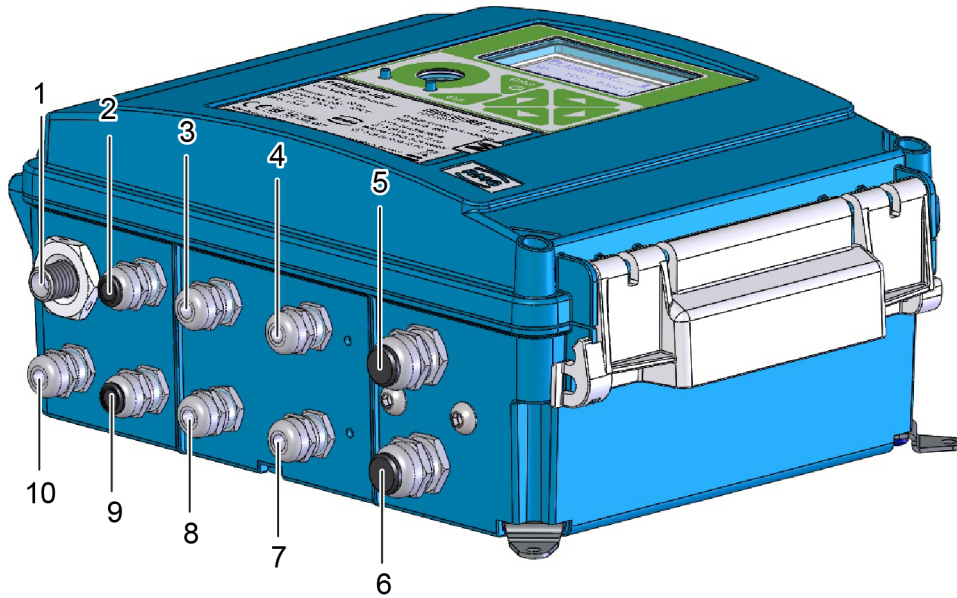
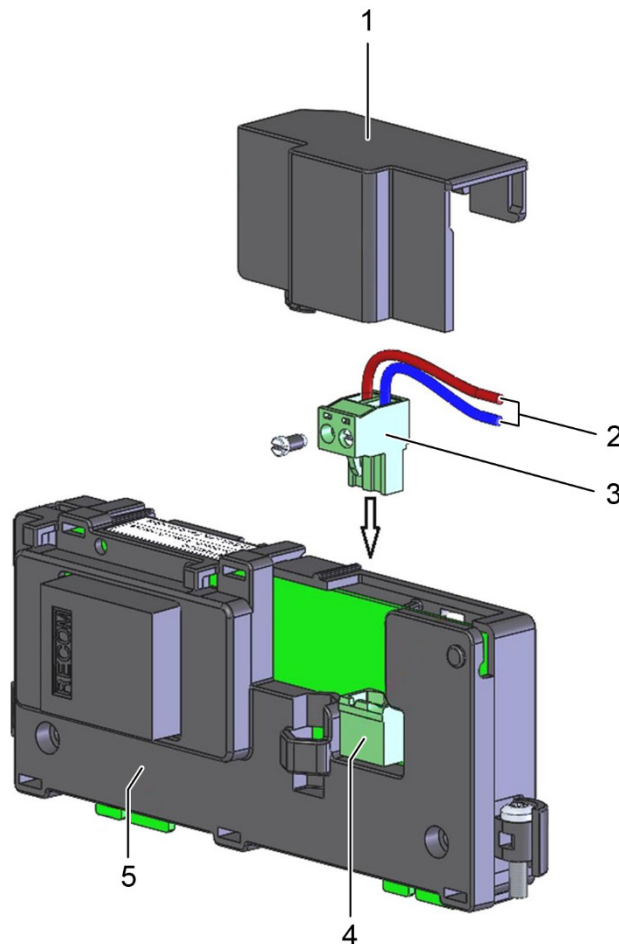

Fig. 70: The deployment of the cable gland
Fig. 71: Connecting of external power supply
For cables with standard signals (i.e. non-intrinsically safe signals) - external power supply, communication, digital outputs and analog inputs/outputs, two PG9 cable glands, gland no. 9 and 10 are intended – see fig. 70.
The power supply cable of the external power supply is connected to the device via cable gland (see fig. 70, item 6). Remove a cover of connector (fig. 71, item 1) from a module S4N-PWR3/S4N-PWR4 for power supply connecting. The connector-plug (fig. 71, item 3) is pulled out and the power supply wires (fig. 71, item 2) are fastened to the terminals of connector (fig. 71, item 3). Make sure the polarity of the S4N-PWR4 is correct. Check the cable clamp for tightness for moving. Insert the plug with the power cord plugged into the connector socket (fig. 71, item 4) on the module fitted in the instrument. Finally, replace the connector cover (fig. 71, item 1).
Fix the cable against being pulled out by tightening the nut cable gland (see fig. 70, item 6).
*Do not connect the external power supply to the terminals when the connector plug (fig. 71, item 3) is inserted into module board. The reason is mechanical stress on the connector on the board!*
We recommend using a shielded cable of the UNITRONIC LiYCY type as the connecting cable. The number of cores and the conductor cross-section depend on the required outputs and parameters of the PG9 cable gland (cable gland No. 10, see Fig. 70). The cable is common to signals from SLOT 1, SLOT 2 DOUT terminals. The PG9 cable gland is designed for cable diameters of 4 to 8 mm.